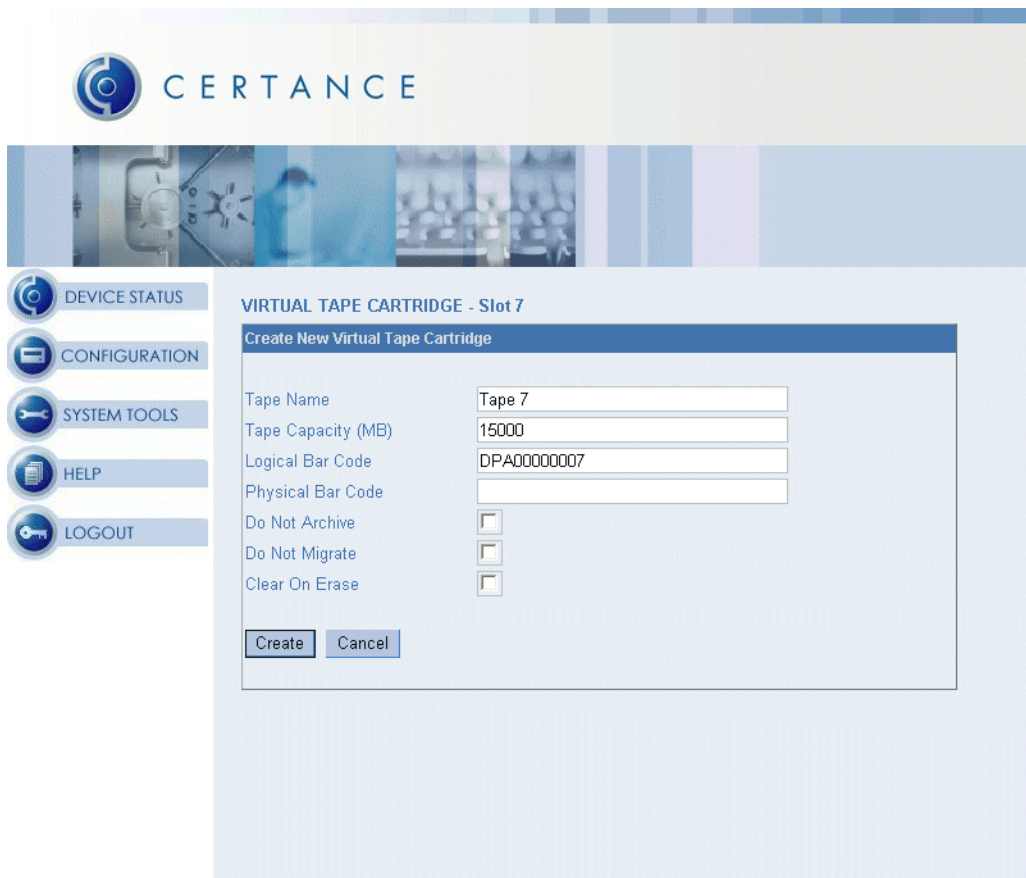

Figure 33. Create New Virtual Tape Cartridge Page
1. Click the **Create New Cartridge** icon (). The Create New Virtual Tape Cartridge page appears (see Figure 33 on page 68).